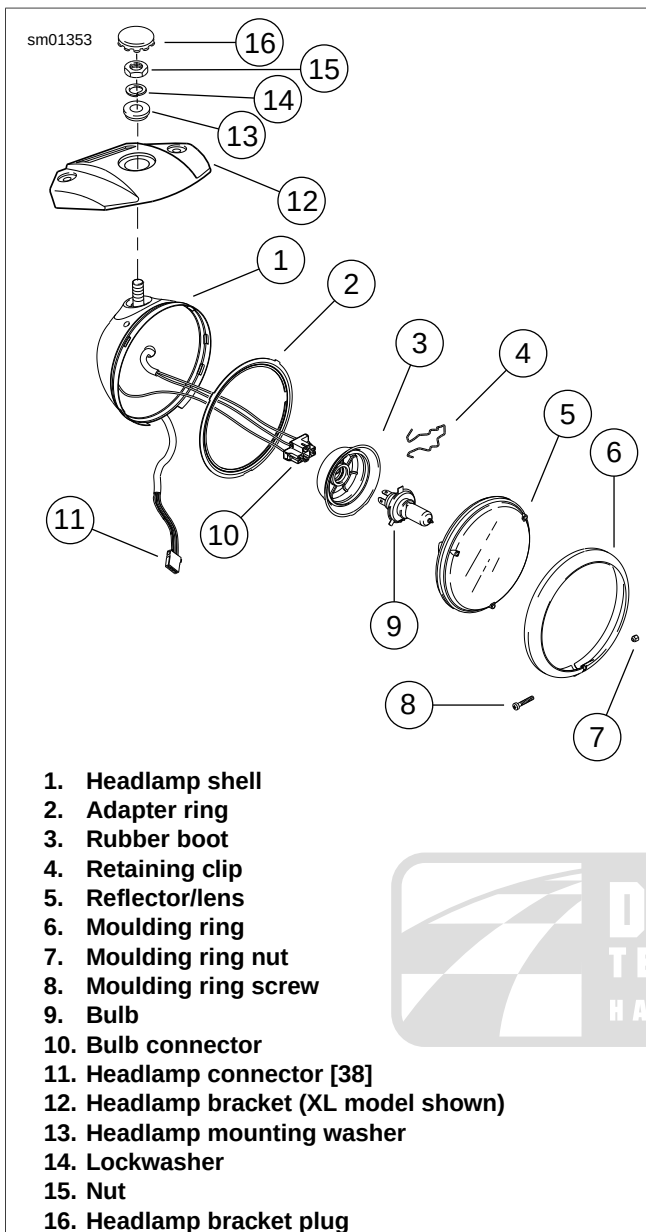

Figure 6-57. Headlamp Components: All Except XL 883C/XL 1200C
2. See Figure 6-57. Remove screw (8) and chrome outer molding ring (6).
3. Hold headlamp reflector/lens (5) and compress release tabs on sides of bulb connector (10) to pull connector from spade terminals.
4. Pull rubber boot (3) from back of reflector/lens.
5. Press ends of retaining clip (4) to unhook from notched retaining tabs and pivot retaining clip back.
6. Remove bulb (9).